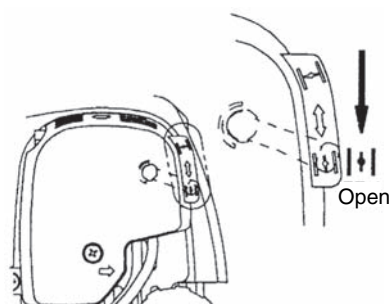

Figure 5
- (7) When the engine starts, open the choke lever (Figure 5).
- (8) Continue warm-up operation for 2 to 3 minutes.
- (9) Warm-up is complete when there is quick engine acceleration from low rpm to full throttle.